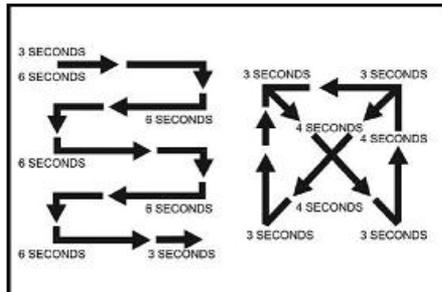

Figure 071-331-0804-6. Night scanning patterns
- (1) Accustom your eyes to low light before night operations by doing one of the following:
- (2) Scan areas at night (figure 071-331-0804-6).